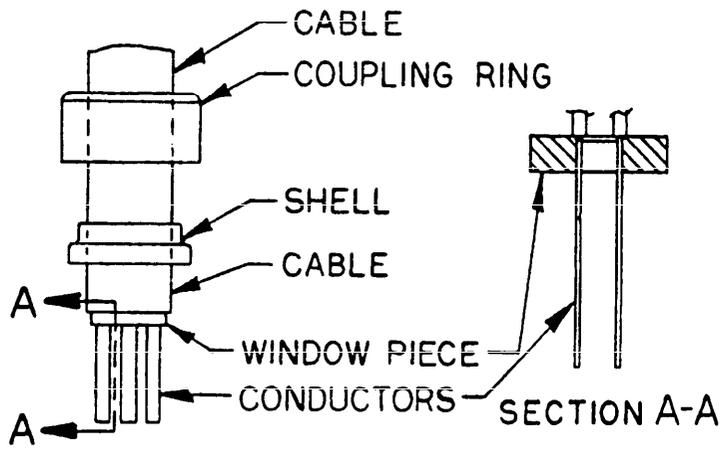

FIGURE 2. Cable insertion.
- A. Thread bared conductors (both cables) through the rear of the coupling ring and small opening of the shell. (Figure 2, Cable Insertion). Move coupling ring and shell back on cables far enough to give liberty in working with each cable.
- B. Insert the bare conductors through respective openings (beveled side) of the window piece (Figure 2, Cable Insertion).